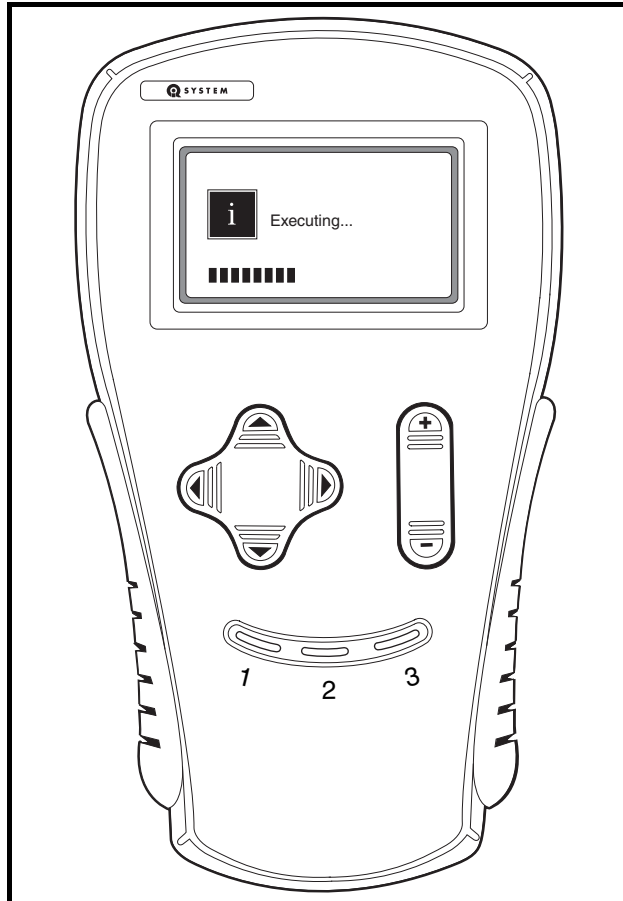
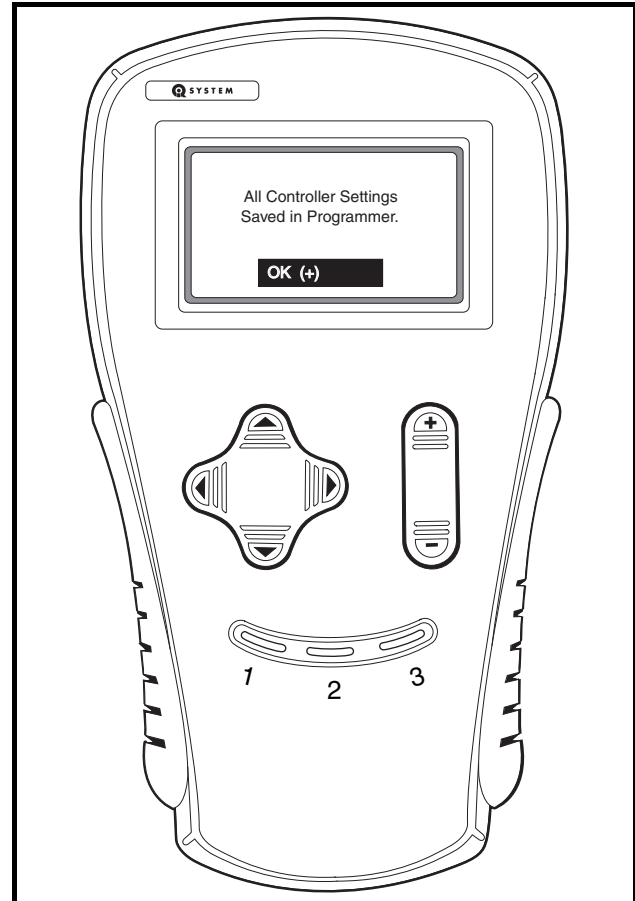

Figure 12-4 Handset Executing
Figure 12-5 Confirmation Message
- 3.4. Align the keyed portion of the plug with the IQDM jack and connect the plug to the jack (**Figure 12-4 or Figure 12-5**).
8. The handset will display an “executing...” message for the next few seconds while the controller settings are being stored in the handset’s memory (**Figure 12-4**).
9. When the handset is finished recording the speed controller settings, a confirmation message is displayed (**Figure 12-5**).
9. The handset will display an “executing...” message for the next few seconds while the controller settings are being stored in the handset’s memory (**Figure 12-4**).
5. The handset will display an “executing...” message for the next few seconds while the controller settings are being stored in the handset’s memory (**Figure 12-4**).